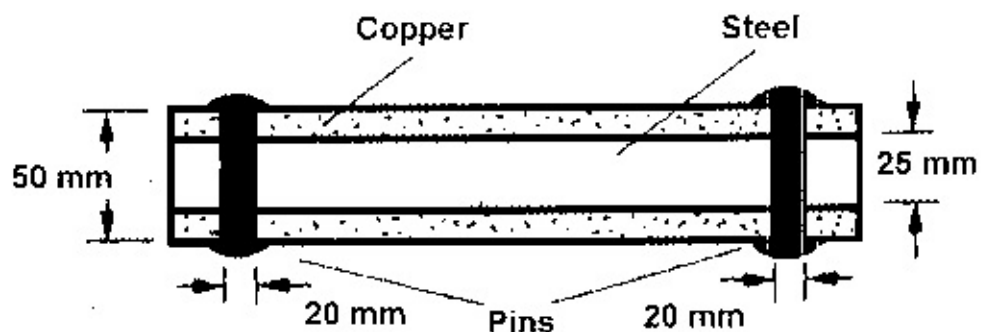

Figure 2
- Q2.** A composite bar is constructed from steel rod of 25 mm diameter surrounded by a copper tube of 50 mm outside diameter and 25 mm inside diameter. The rod and tube are joined by two 20 mm diameter pins, as shown in Figure 2. Find the shear stress set up in the pins if, after pinning, the temperature is raised by 50°C. For steel $E=210$ GPa and $\alpha=11 \times 10^{-6}$ per °C. For copper $E=105$ GPa and $\alpha=17 \times 10^{-6}$ per °C. (15 Marks)
Write the shear and moment equations of the beam loaded as shown in fig.2. Also sketch the shear and moment diagrams.
(Fig2)